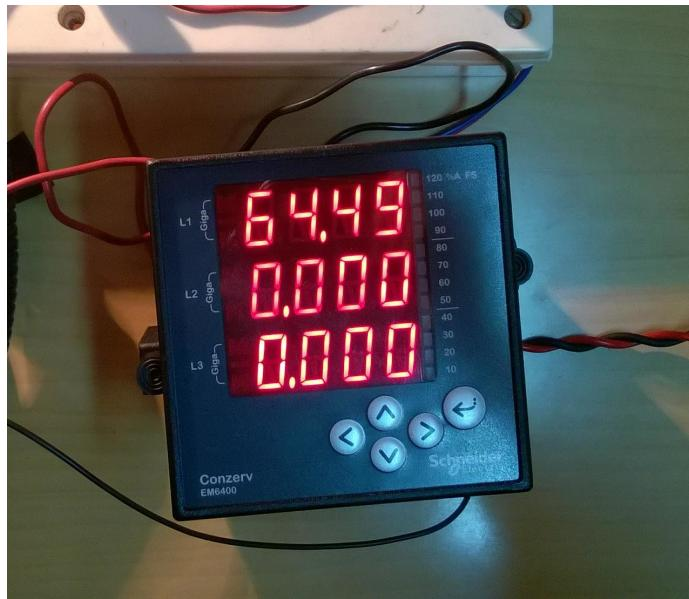

Figure 11.13: Single phase active power output in energy meter
3. Single phase active power output: Fig. 11.12 and Fig. 11.13 show Scilab code output of active power in Watts and corresponding snapshot of energy meter display with a single load rated 60W-230V.